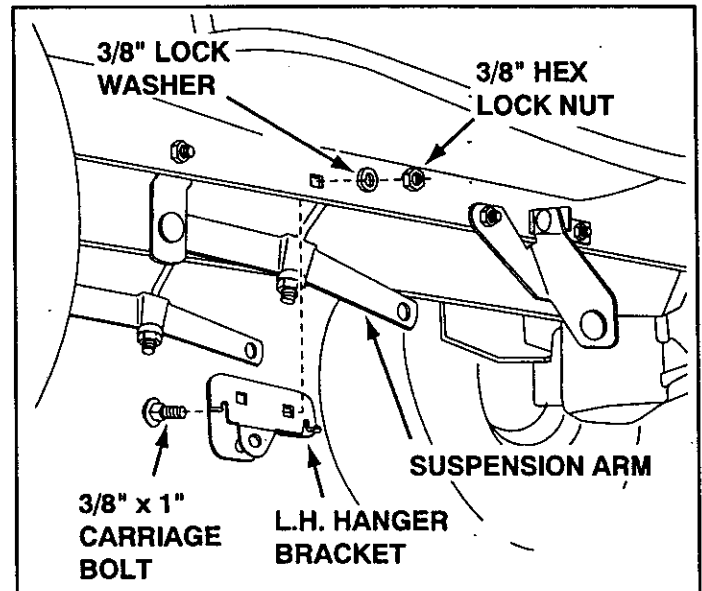

FIGURE 5
**INSTRUCTIONS FOR TRACTORS NOT HAVING FOOT REST BRACKETS UNDER THE FOOT RESTS (Figure 5.)**
- Locate the empty hole beneath the foot rest in the left side of the tractor frame as shown in figure 5. Attach the L.H. Hanger Bracket (marked "L") to the inside of the frame using a 3/8" x 1" carriage bolt, 3/8" lock washer and 3/8" hex lock nut. Make sure the bolt is assembled from the inside of the tractor frame. Repeat for the R.H. side.